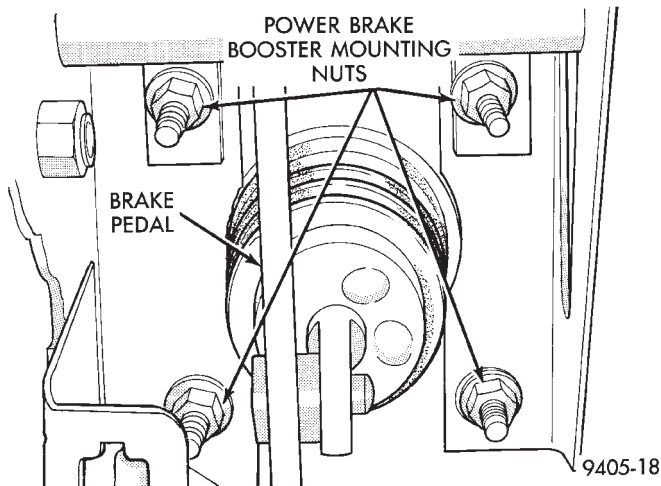

Fig. 99 Vacuum Booster Mounting
(13) Remove the 4 nuts attaching the vacuum booster to the dash panel. Nuts are accessible from under dash panel in area of the steering column and pedal bracket assembly (Fig. 99).
(1) Install vacuum booster onto dash panel using the reverse procedure of removal.
(2) Install and tighten the 4 vacuum booster mounting nuts (Fig. 99) to a torque of 37 N·m (27 ft. lbs.) torque.
(3) Using lubriplate, or an equivalent, coat the surfaces of the brake pedal pin that contact the power vacuum booster input rod.
(4) Connect vacuum booster input rod to brake pedal pin and install a **NEW** retaining clip. **Use only a new retainer clip DO NOT USE the old clip.**
(5) Position master cylinder on studs of vacuum booster, aligning push rod on vacuum booster with piston of master cylinder.